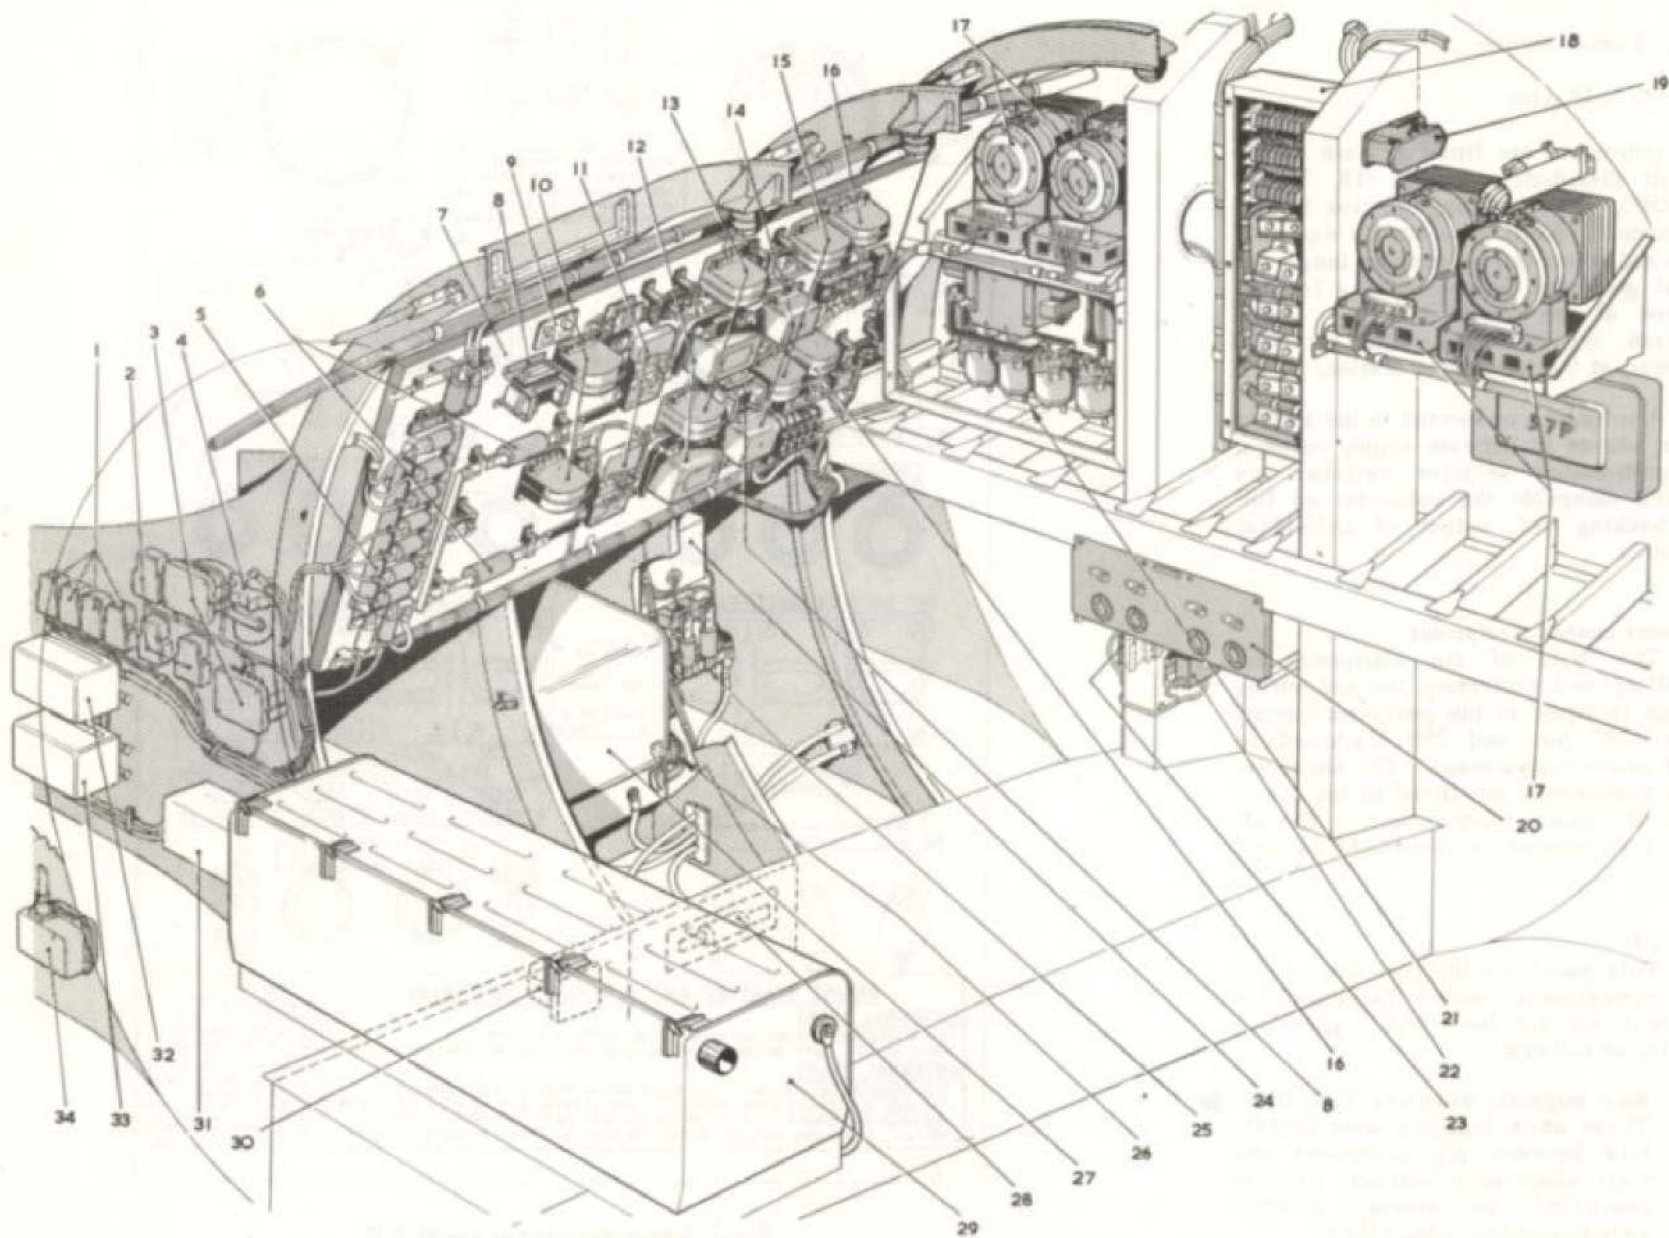

Fig.3 Power equipment in aft power compartment - pre Mods.874 and 1044
12. The bulk of the equipment for controlling and protecting the generating systems is fitted to the generator control panels (24P port and 25P starboard) in the aft power compartment. The remainder of the components are fitted to the structure in the power compartment. The aft power compartment is illustrated in fig.3 and 4.
KEY TO FIG.3